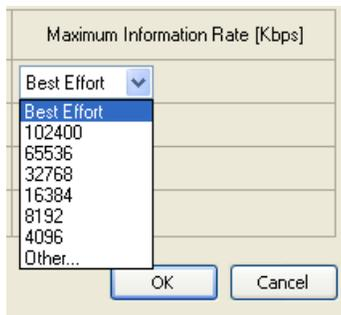

Figure 4-38. Selecting MIR
4. If you previously used Site > Ethernet > Maximum Information Rate to globally limit the site, then your choice in *Figure 4-38* will also be limited.